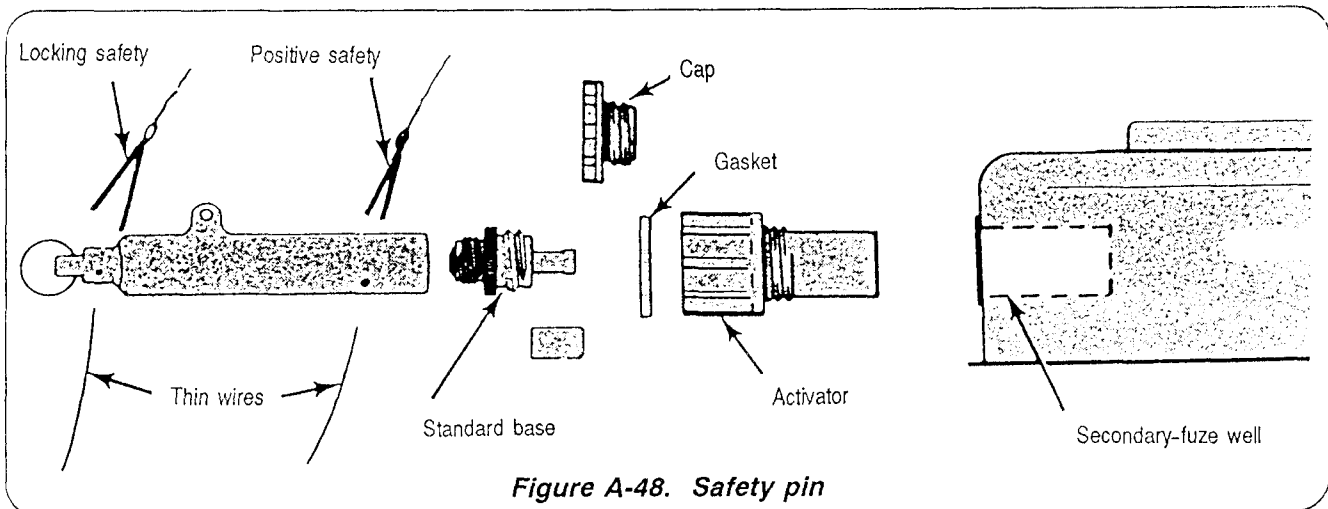

Figure A-48. Safety pin
8. Carefully remove the locking safety first (Figure A-48).